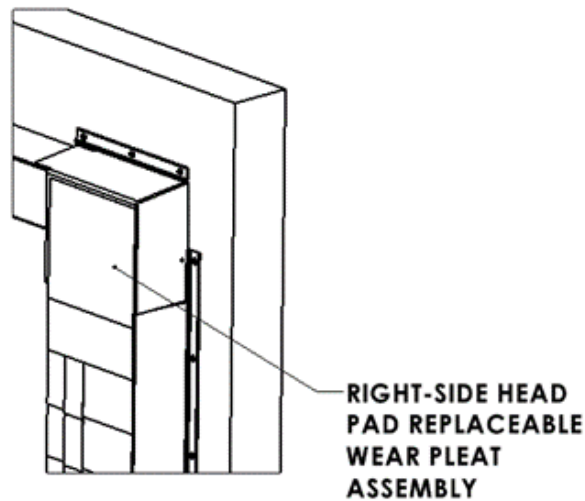

FIGURE 7
- d. Pull the Right-Side Head Pad Replaceable Wear Pleat Assembly (D) inward (toward the center of the Head Pad) until the end comes in contact with the end of the Head Pad (Figure 7).